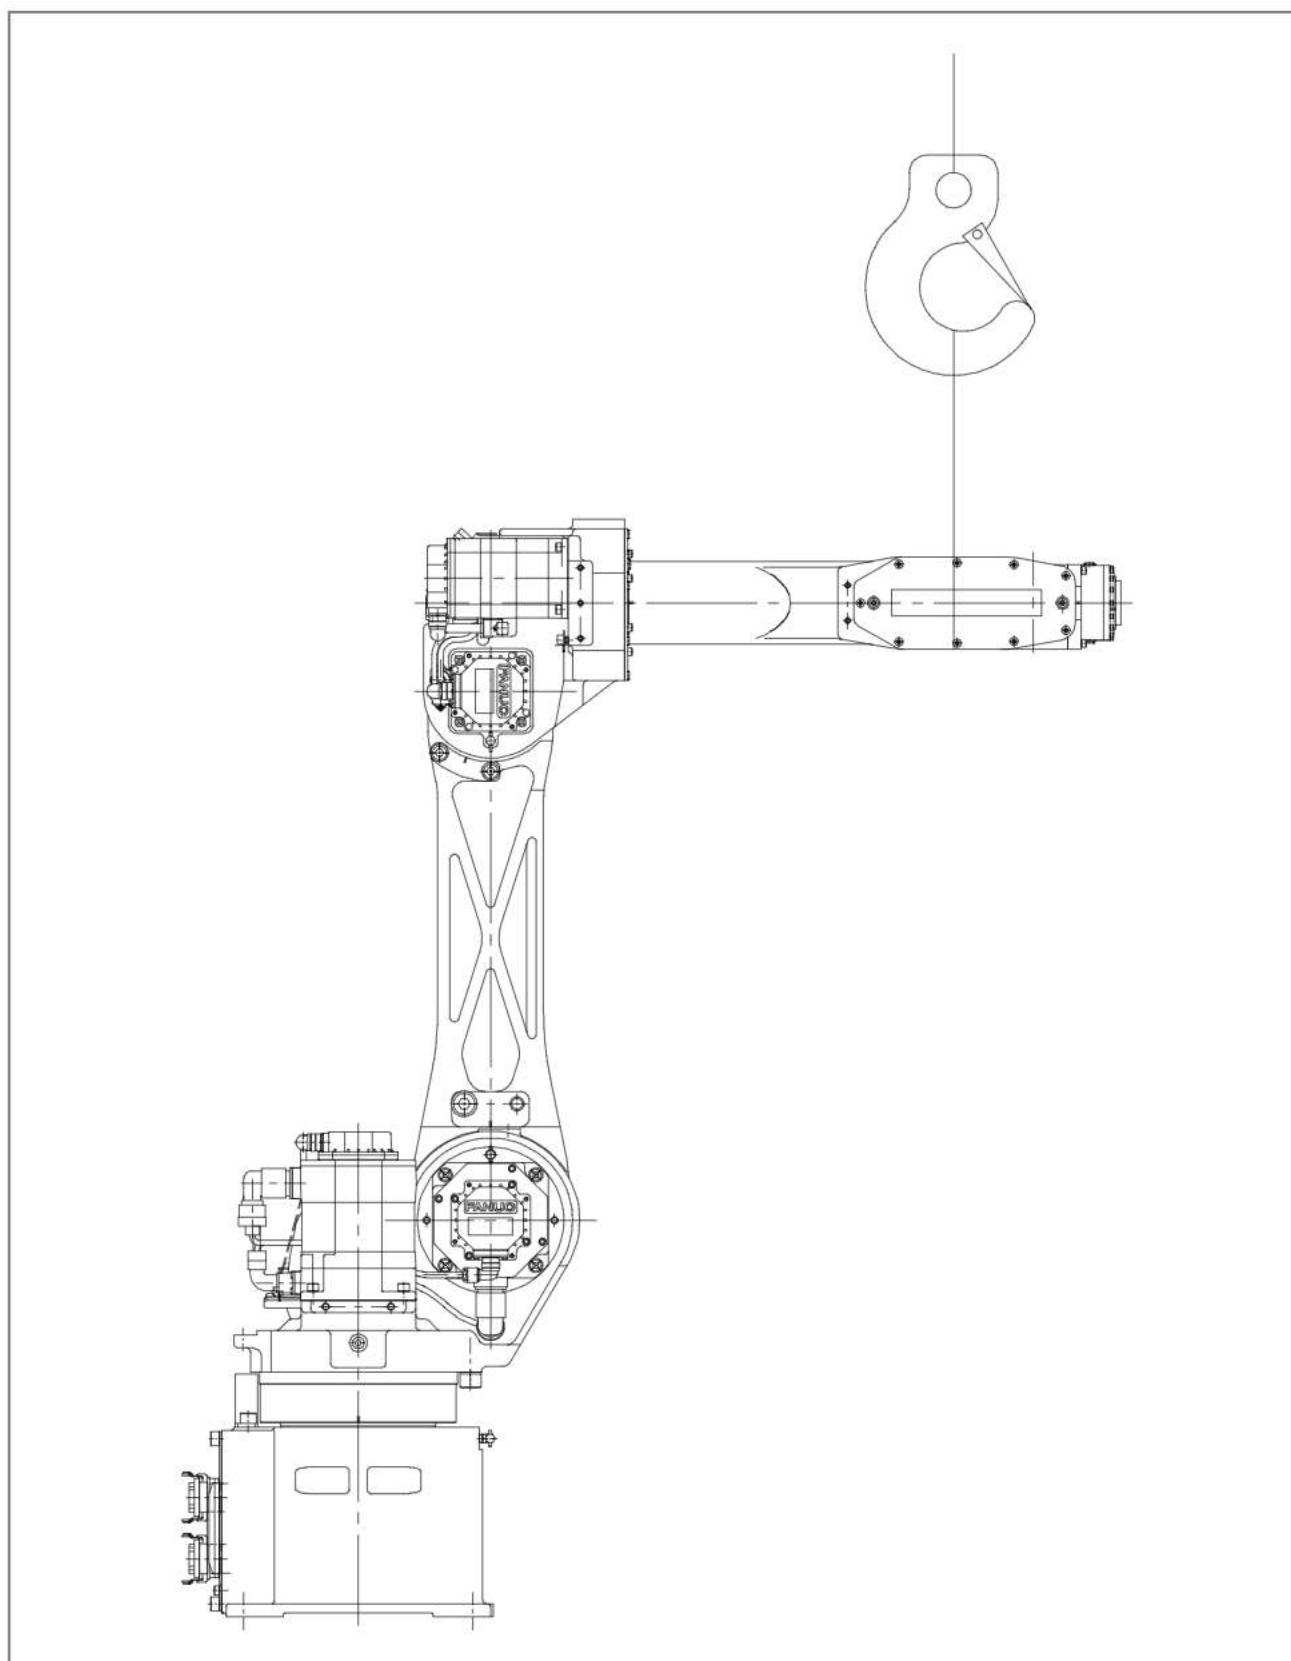

Fig 5.7 Releasing the brakes of the J2-axis motor
- 1 When releasing the brakes of the J2-axis or J3-axis motor (M2 or M3), suspend the robot with a crane as shown in Fig. 5.7.